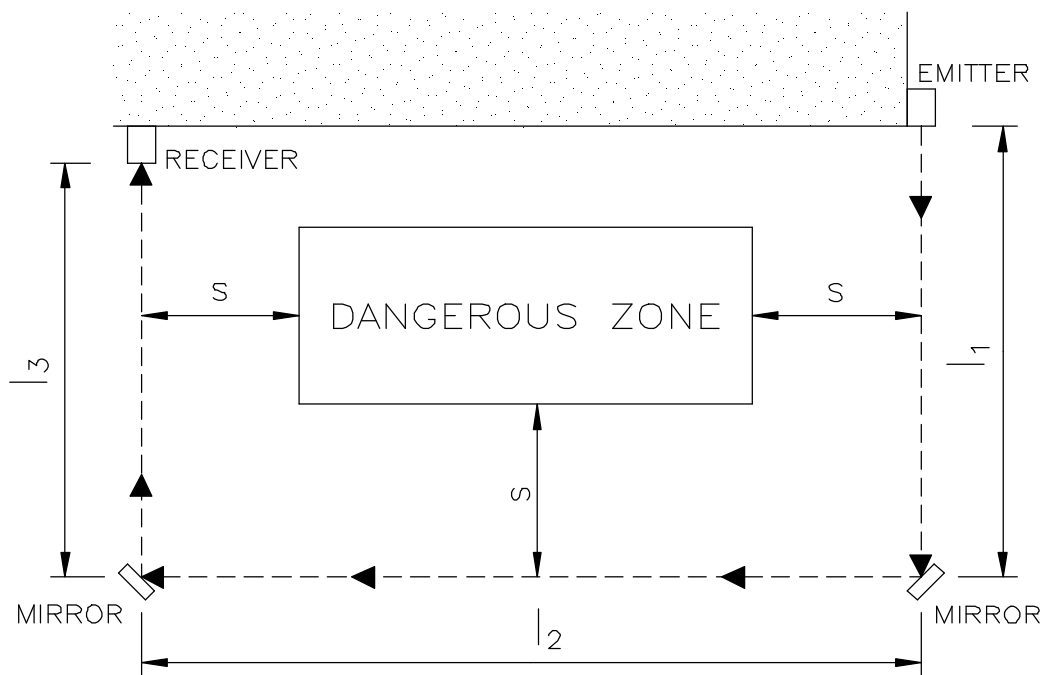

Figure 13
- Place the mirrors so as to ensure compliance with the minimum safety distance **S** (Figure 13) on each side from which the danger zone can be accessed.